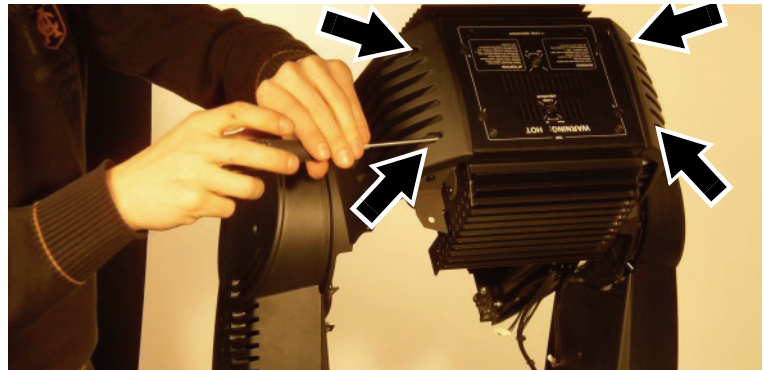

Figure 44
48. See Figure 44. Remove the two retaining screws (PZ2, P/N 08070404) from each rear head side cover and remove both rear side covers. Keep the screws and covers for re-use during re-installation.